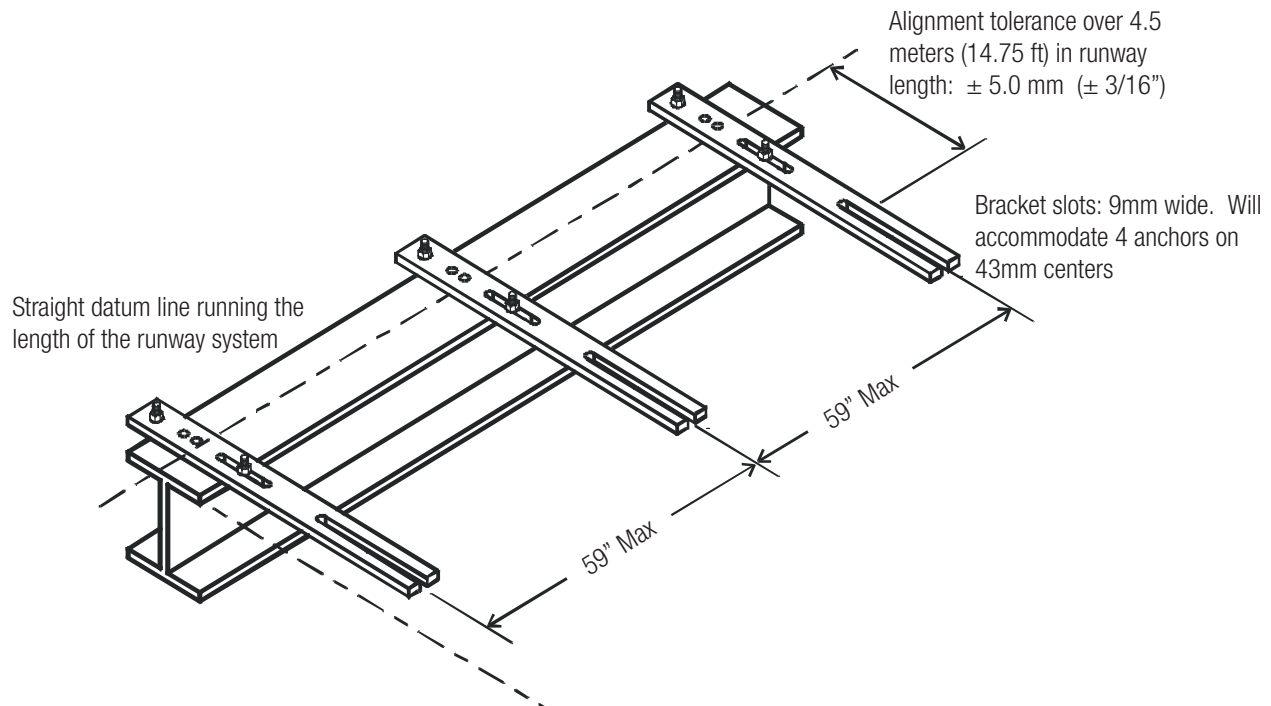

Figure: 5-1
5.0.1 Locate and secure support brackets at the recommended spacing. (See Figure 5-1).
5.0.2 Observe all alignment tolerances. (See Figure 5-1).